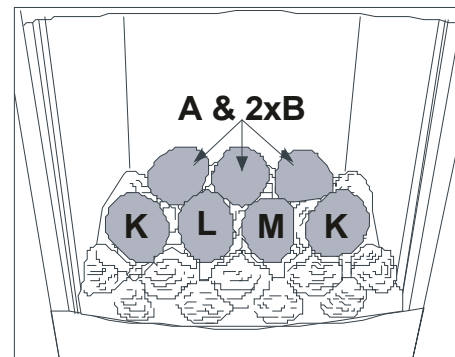

Figure 30
3. Place pebbles **K, L & M** in the order shown in **Figure 30** such that they are bridging between the front and rear matrix.